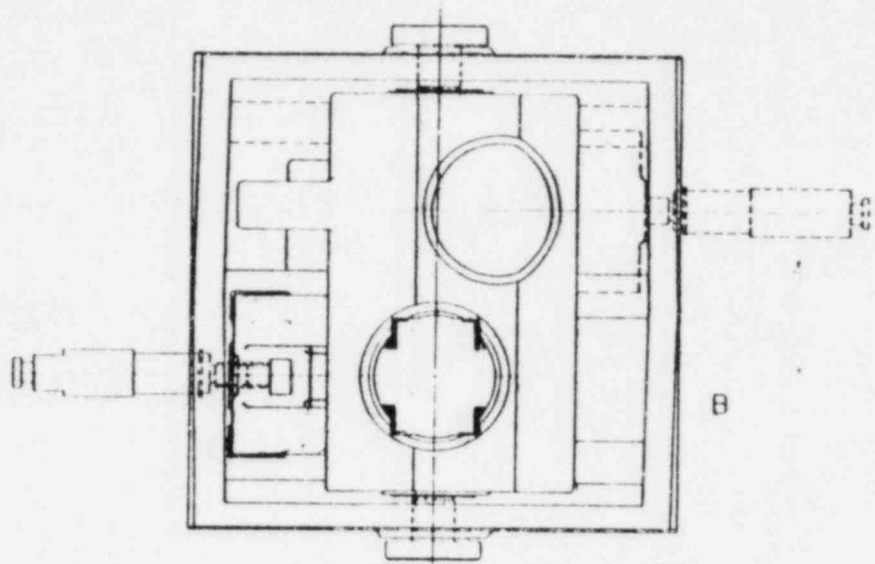

FIG. 10
- Figures 10, 11 & 12 - Upper Drive Case Assembly